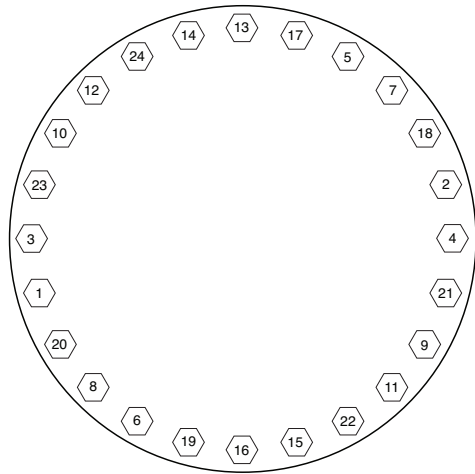

Fig. 49 — Cooler Head Recommended Bolt Torque Sequence
2. Bolt tightening sequence is outlined in Fig. 49. Follow the numbering or lettering sequence so that pressure is evenly applied to O-ring.